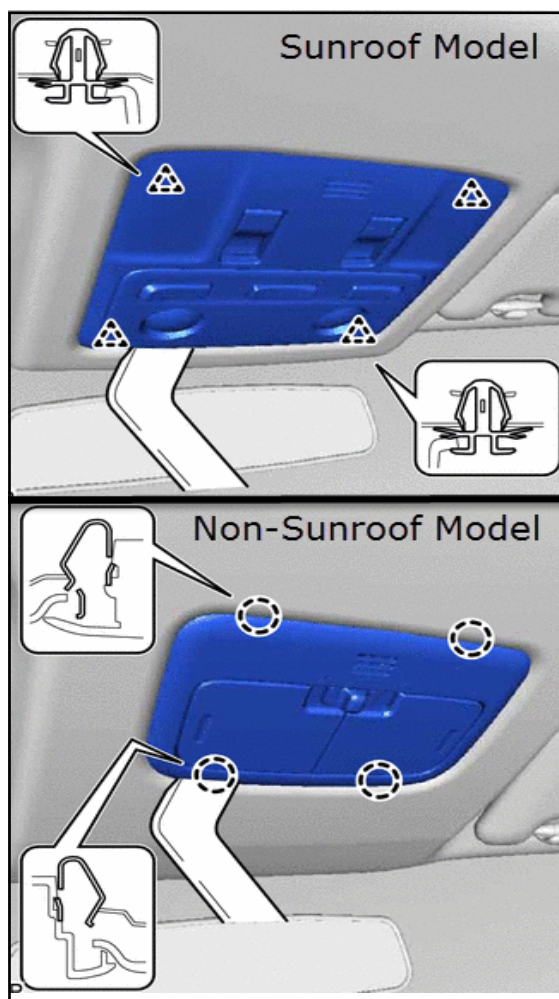

Figure 2
- a. **Sunroof Models:** Using a molding remover, disengage the 4 clips. Disconnect the connector. See figure 2.
- b. **Non-Sunroof Models:** Using a molding remover, disengage the 4 claws. Disconnect the connector. See figure 2.